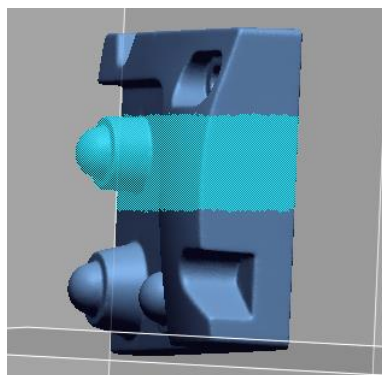
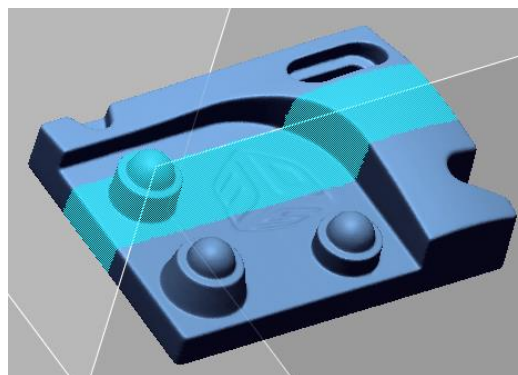

Figure 12 - Initial Selection
Figure 13 - Result of Selection
- Rotate the object around to view the other side of your selection. Notice that turning off **Visible Only** causes the current selection tool to affect all areas within the selection boundary, not just those visible on screen, see **Figure 12** and **Figure 13**.